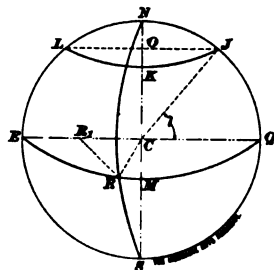
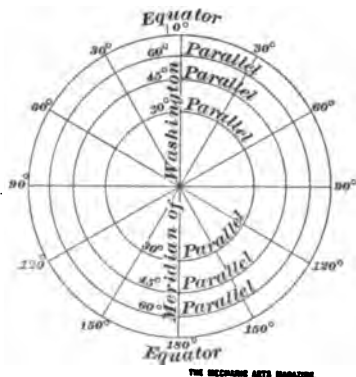

FIG. 3.
FIG. 4.
tables is found in Appendix No. 6 to the Government Report for 1884-85, under the title, "Tables for Projection of Maps on a Polyconic Development of the Clark Spheroid." (c) For the projection of the whole sphere or of a hemisphere, the ordinary method of descriptive geometry and projection drawing may be used. This kind of projection is called *orthogonal*. In projecting the whole sphere or half of it, it is customary to make the projection either on the plane of the equator or on the plane of a meridian. Except for very accurate work and maps on an unusually large scale, the earth may be projected as if it were a perfect sphere. We shall show how to project a hemisphere both on the plane of the equator and on the plane of a meridian. (1) Let $NESQ$, Fig. 3, be the principal meridian (say the meridian of Washington), ERQ the equator, and NES any other meridian (in this case in longitude 60° , so that angle $ECR = 60^\circ$). This figure is a perspective view used for the purposes of explanation. To project the northern hemisphere $EMQN$ on the plane of the equator, draw a circle to represent the equator, as shown in Fig. 4. Since the planes of all meridians are perpendicular to the plane of the equator and pass through the center C , Fig. 3, they will be projected in radial lines, as shown in Fig. 4. All parallels of latitude are projected in true size as circles, since their planes are
parallel to the plane of projection. The radius r of any parallel, as LKJ , Fig. 3, in latitude l , is easily calculated by the formula $r = OJ = CJ \sin NCJ = a \cos l$, where a = mean radius of earth; or it may be constructed by drawing a right triangle whose hypotenuse is a and one of whose acute angles is l ; the side adjacent to l (CJO in Fig. 3) will be the
required radius. (2) Let it be required to project the hemisphere $NESQM$, Fig. 3, on the plane of the meridian $NESQ$. Draw the circle $N'E'S'Q'$, Fig. 5, to represent this meridian. All circles of latitude will be projected into straight lines, since their planes are perpendicular to the polar axis, and, therefore, to all meridians. Thus, $E'Q'$ is the projection of the equator, and $L'J'$ is the projection of the parallel LKJ , Fig. 3. The distance $C'O' = CO$, Fig. 3, is equal to $a \sin l$, and may be either calculated or constructed as the radius r in the preceding case. Any meridian NES , Fig. 3, is projected into a semiellipse $N'R'_1S'$, Fig. 5, whose major axis is $N'S'$, and whose minor axis, $C'R'_1$, is found as follows: The minor axis being the projection of CR , Fig. 3, on the plane of the principal meridian, it is equal to the distance CR_1 from C to the foot of the perpendicular R_1R from R on that plane; and we have $CR_1 = CR \cos RCR_1 = a \cos m$, where m is the longitude of the meridian NES . In this way $C'R'_1$ in Fig. 5 ($= CR_1$ of Fig. 3) is calculated. To find it by construction, lay off the arc $E'R'_2 = m$ (in this case 60°), and project R'_2 up to $E'Q'$, as shown. Other meridians are projected in exactly the same way.